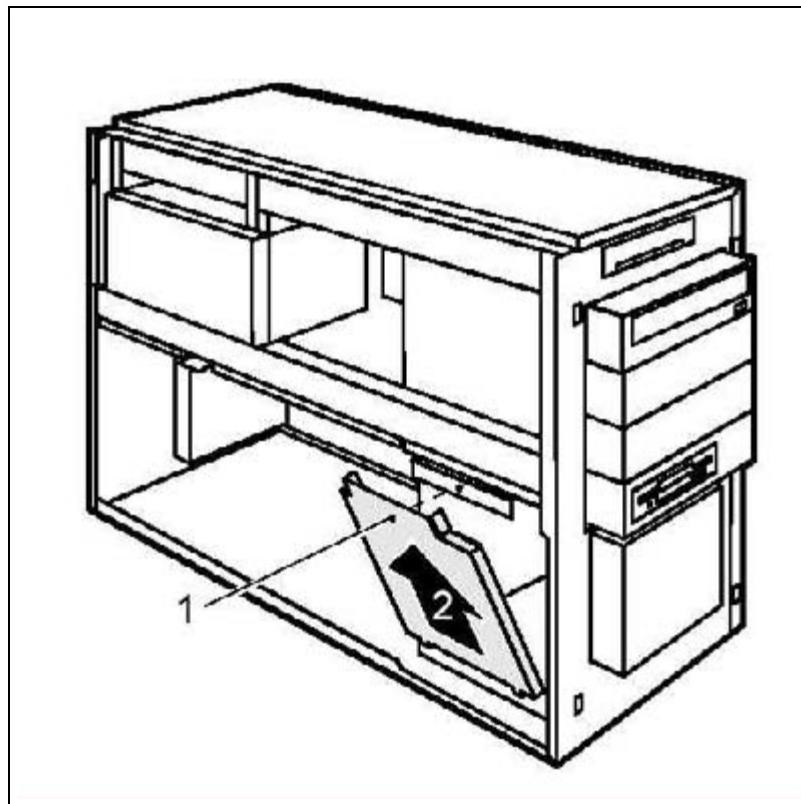

Fig. 57: *Replacing a PCI board\_1*
3. Loosen the screw (1/Fig. 57 / p. 103).
4. Open up the cover (2/Fig. 57 / p. 103).